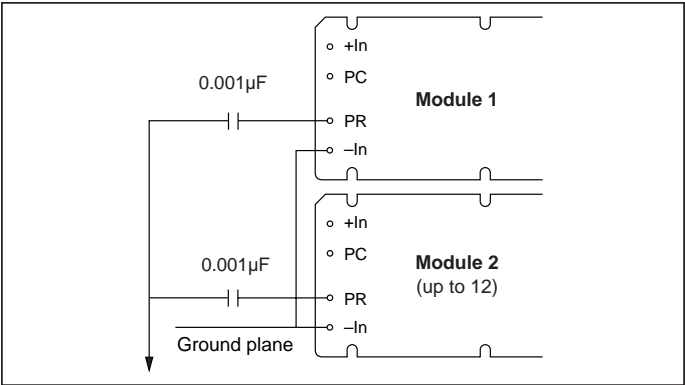

Figure 10—AC coupled single-wire interface.
*AC coupled single-wire interface.* All PR pins are connected to a single communication bus through 0.001μF (500V) capacitors. This interface supports current sharing and is fault tolerant except for the communication bus. See Figure 10.